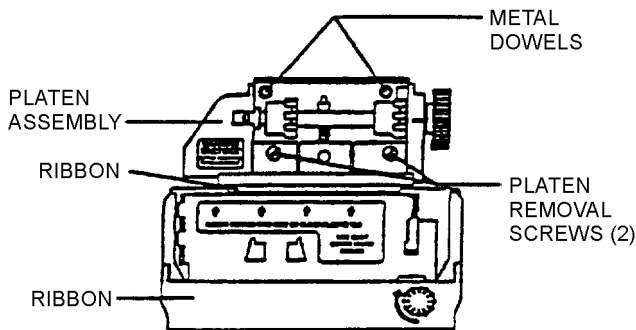

Figure 24. Platen Assembly
a. Loosen two platen removal screws in platen assembly until they are loose from the printer frame (Figure 24)
a. Gently place platen assembly onto printer frame by aligning holes of platen assembly frame over metal dowels on printer frame (Figure 24)